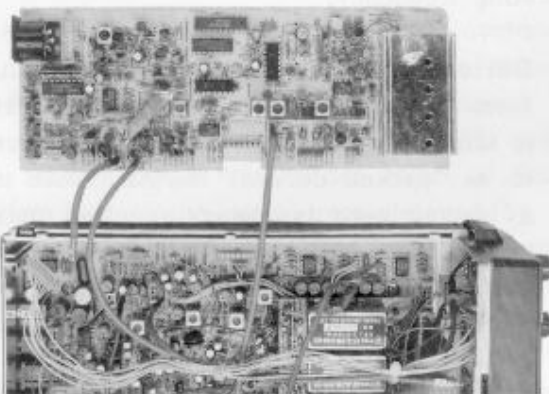

Figure 1
- (1) Referring to Figure 1, slide the Local Unit upwards to remove it from the Main Unit and provide free access to both sides of the board.